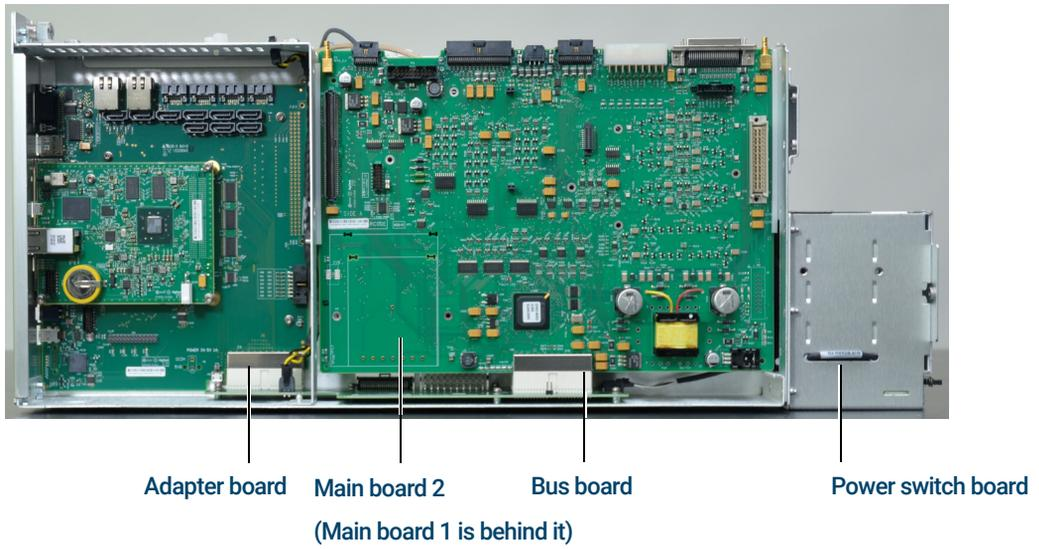

Figure 50. Electronics module, side 2
- Main Board 2 (See **Figure 50** on page 182.)
- Bus board (See **Figure 50** on page 182.)
- Adapter board (See **Figure 50** on page 182.)
- Power switch board (See **Figure 50** on page 182.)